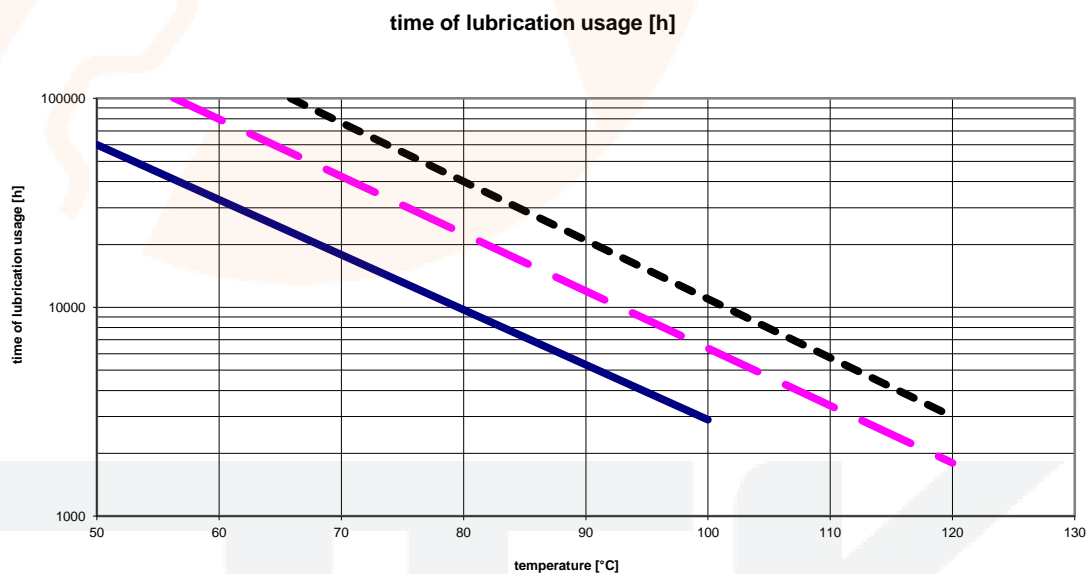

Fig. 2: Period of use of the lubricant
- ⇒ Use this value to determine the period of use of the lubricant from Fig. 2.